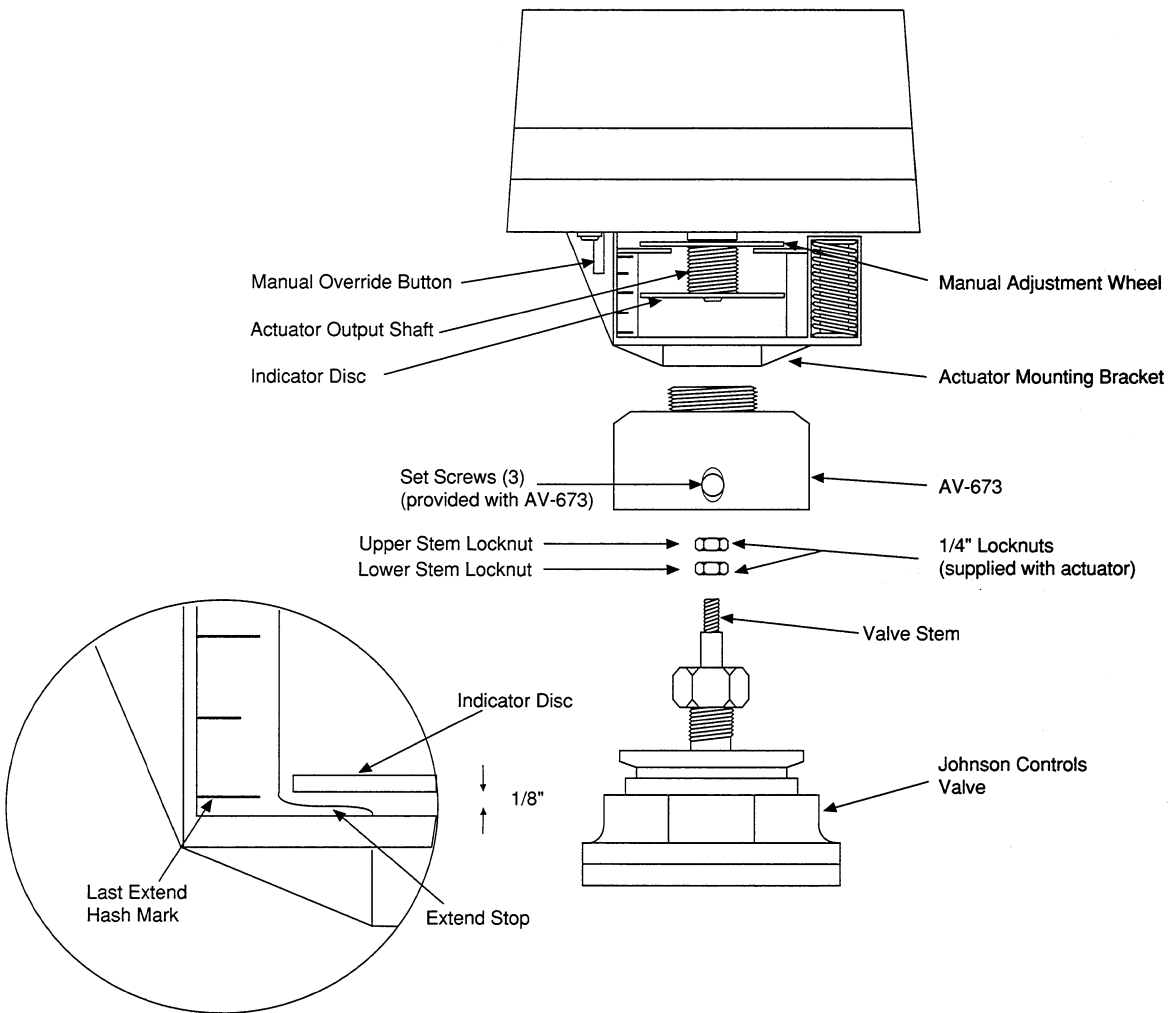

Figure-1 Exploded Assembly View of MF-631X3 Actuator to Johnson Controls Valve.
1. Fully extend the valve stem, screw both 1/4" locknuts (see Figure-1, furnished with the MF-631X3 actuator) onto the valve stem, and finger tighten to the bottom of the stem threads.
2. Screw the AV-673 valve linkage into the actuator mounting bracket and hand tighten (see Figure-1).
3. Manually move the output shaft so that the bottom of indicator disc is just above the last extend hash mark on the indicator scale [approximately 1/8" (3 mm) from extend stop - see blowup in Figure-1]. Make adjustment by pressing the override button and turning manual adjustment wheel.
7. Align the actuator to the position required for field wiring. Push the actuator down and then tighten the three (3) set screws of the AV-673 valve linkage with a 3/32" allen wrench.
- c. Unlock the two stem locknuts from each other with two (2) 5/16" open-end wrenches and lock them to the actuator output shaft by tightening the upper stem locknut against the shaft and then tighten the lower stem locknut against the upper stem locknut. Recheck space and correct further if necessary.